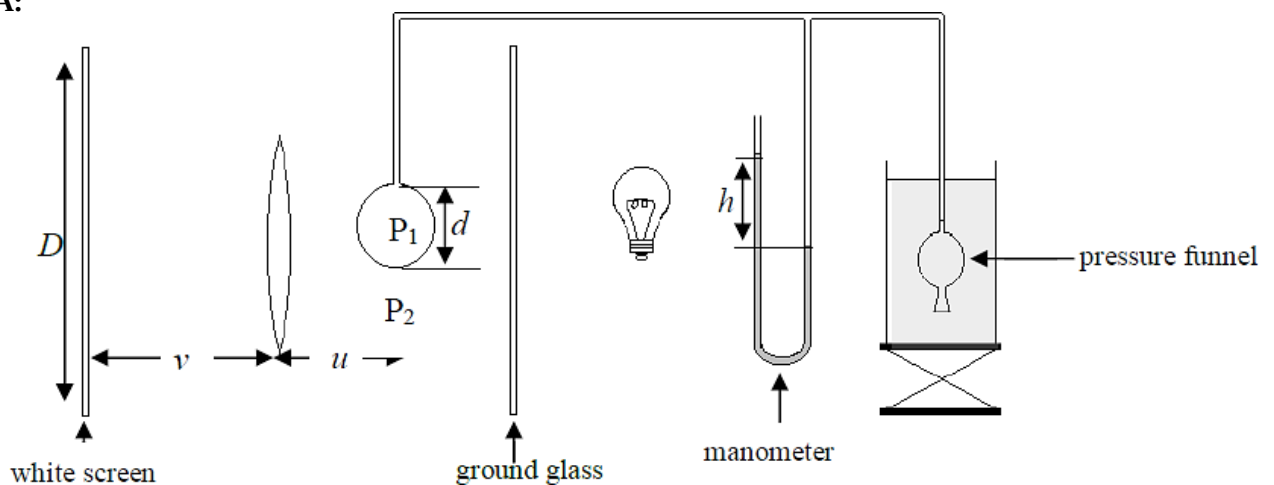

Fig. 1. The experimental setup of the Ferguson's method
A lens arrangement can be used as shown in Fig.1 to find the diameter d of the soap bubble using the equation of magnification,
- a) Set the apparatus as shown in **Fig. 1**.